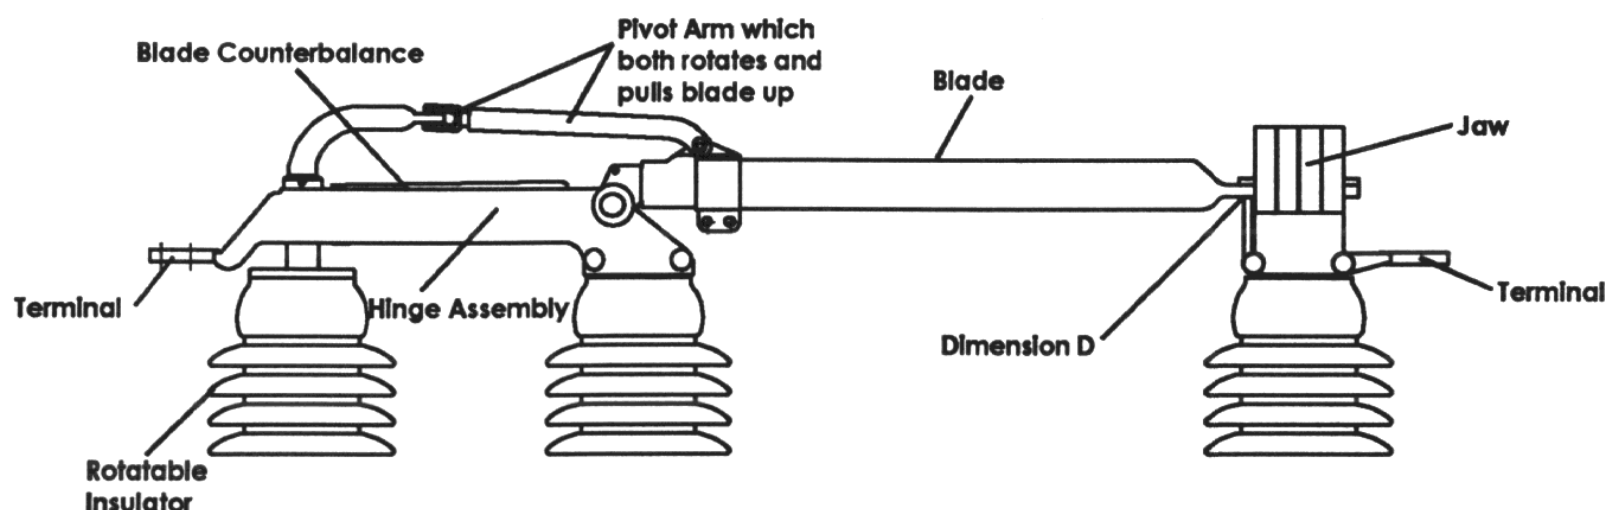

Figure 2
The blade (Fig. 2) of the switch raises and lowers both vertically and radially. The contact at the end of the blade enters the jaw at a slight angle and then rotates horizontally to firmly press against the jaw contact fingers. In addition to ensuring definite contact pressure, this dual motion also facilitates ice-breaking on opening.
5. Assemble the live parts (blade, hinge, and jaw assemblies, etc.) (Fig. 2) to the switch as follows:
- When uncrating switches having blade counterbalances (Fig. 2), be careful to keep the linkage on dead center until the blade and hinge assembly have been bolted in place on the insulator columns.
terbalances (Fig. 2), be careful to keep the linkage dead center until the blade and hinge assembly have been bolted in place on the insulator columns (when assembling the switch). Otherwise, the counterbalance springs may collapse the hinge end toggle which could injure personnel.
- Fasten the blade and hinge assembly to the support insulators as shown in Fig. 2.